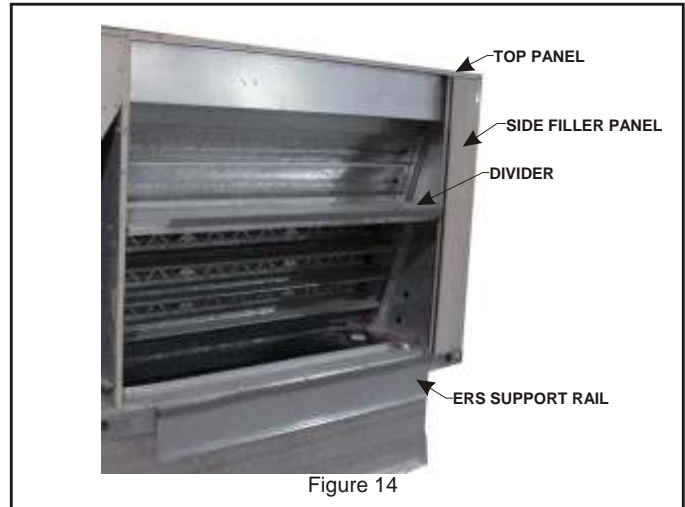

Figure 14
6. Install the side filler panel that is closest to the filter access panel of the unit. Remove the 1st, 3rd, 5th screws from the bottom in the corner post along the return air opening. Set the side filler panel so the screws removed can be reinstalled to same holes. **See Figure 14.**